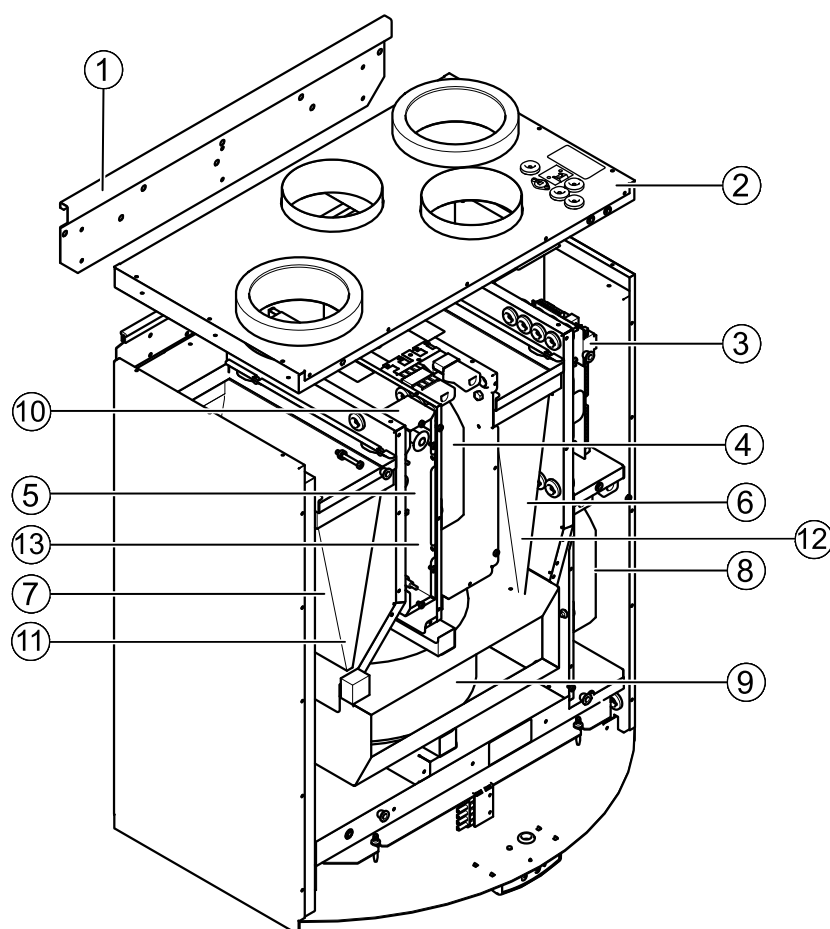

Fig. 13 Internal components
The fans (pos. 4 and 8 figure 13) have external rotor motors of EC type which can be steplessly controlled individually 20–100%. The motor bearings are life time lubricated and maintenance free. It is possible to remove the fans for cleaning, see “User Manual” for more information.
The main print card (pos. 3 figure 13) controls the functions and set temperatures of the unit. It is possible to connect external accessories to terminals in the print card. See wiring diagram for more information.